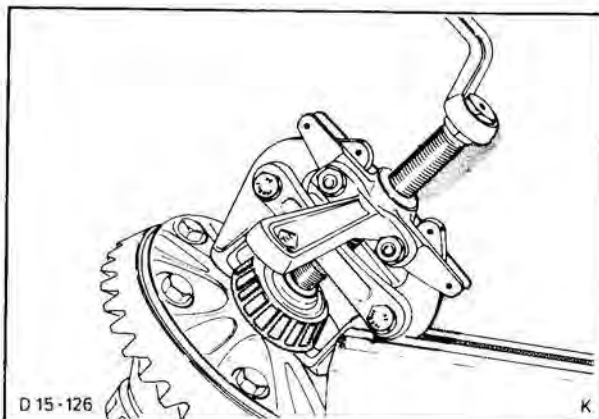

Fig. 27. Clamp special tool in vice by one leg and detach bearing
7. Detach differential taper roller bearing from differential housing. To do this, clamp one leg of Special Tool in a vice and pull off bearing, Fig. 27.